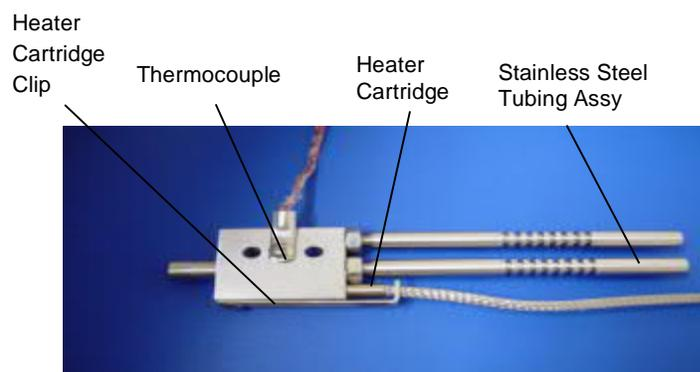

Figure 9.2 Heated Sonicair Nozzle Setup
**For Part Number 350001:** The insert is available with either a thru hole or a counter drilled hole. The thru hole style insert is the specified diameter all the way through the insert. The combinations of the insert size, insert type and end cap size determine the coverage characteristics. Refer to section 9.8 for the insert and end cap options. Figure 9.2 illustrates the different insert types.
### 9.4.1 Heating (Refer to figure 9.2)
The Sonicair Nozzle has no replaceable parts. Please contact IVEK Sales for information on ordering replacement Sonicair Nozzles. The following optional parts are available as shown in Figure 9.2.